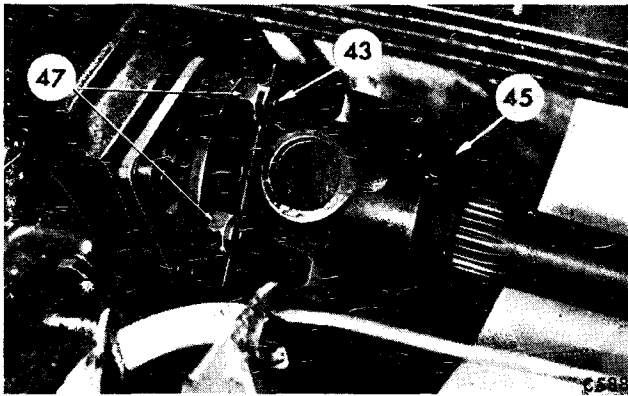

Fig. 24. Axle shaft universal joint connections
3. Jack up the vertical link (10), as shown on Fig. 22, to relieve the dampers of load. Remove nuts (47), bolts (43), Fig. 24, and disconnect the axle shaft couplings.